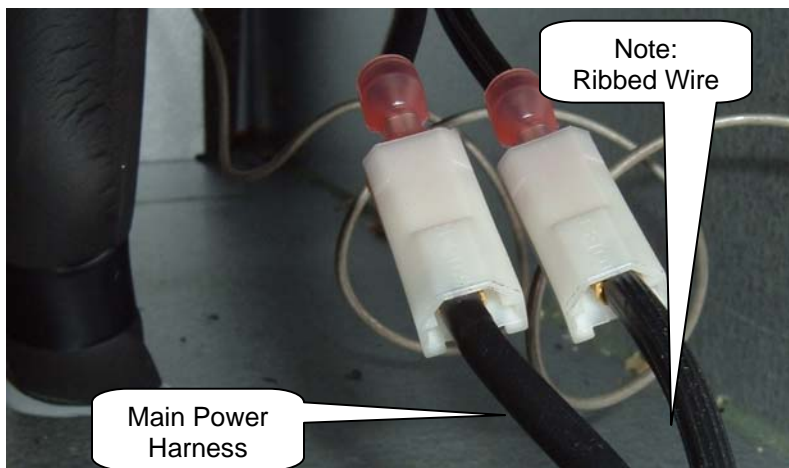

Figure 7
28. Align the male fan connectors to the female fan connectors of the Main Power Harness shown in Figure 7. When connecting, align ribbed wires with ribbed wires, smooth with smooth.